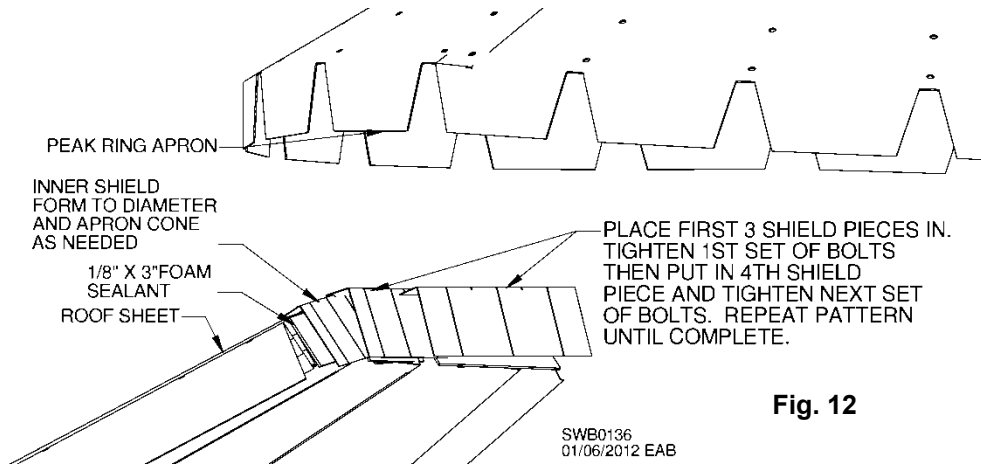

Fig. 12
As shown in Fig. 12, insert three (3) shield pieces, then tighten bolts on first installed piece. Install fourth piece and tighten next set of bolts. Continue pattern until all inner shields are installed. See Table 4 for quantity of peak ring inner shields. **TIP:** After shield pieces are put into place, run a self-tapping screw through every overlapped location. This will tie pieces together and secure them in place.